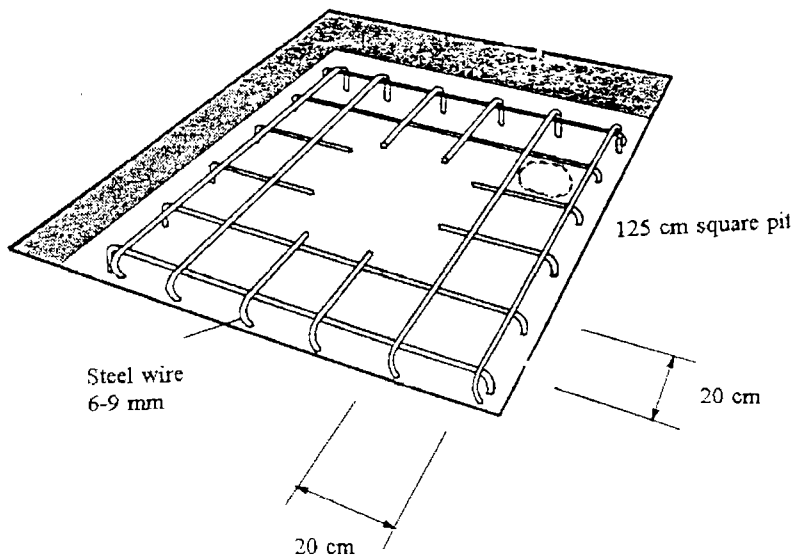

Figure 7. Laying the grid in the pit
- Put the grid in the pit. Bend the ends of the wires, or put a small stone at each corner, so that the grid stands about 20-30 millimetres off the bottom of the pit (see Figure 7). Put the pan and water trap in the hole in the grid.